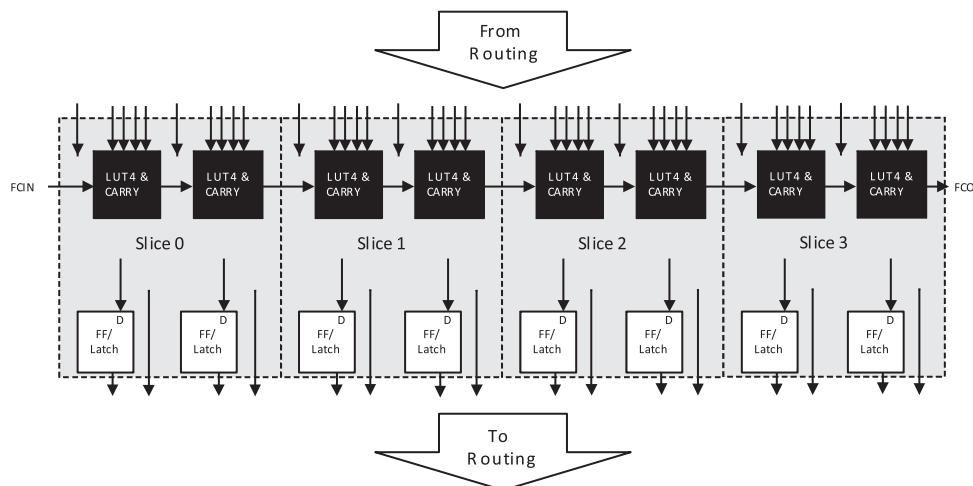

Figure 2.3. PFU Block Diagram
The core of the MachXO2 device consists of PFU blocks, which can be programmed to perform logic, arithmetic, distributed RAM and distributed ROM functions. Each PFU block consists of four interconnected slices numbered 0 to 3 as shown in Figure 2.3. Each slice contains two LUTs and two registers. There are 53 inputs and 25 outputs associated with each PFU block.
1. See Figure 2.3. for connection details.